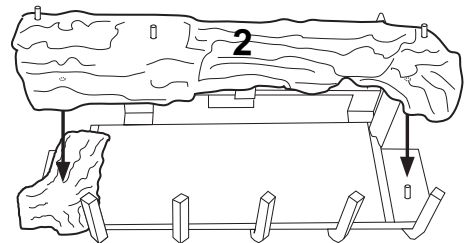

Figure 45 - Installing Log No. 2
2. Rest left side of log #2 (front log) onto top of log #1. Place right side of log onto second pin located on right side of grate (see Figure 45).